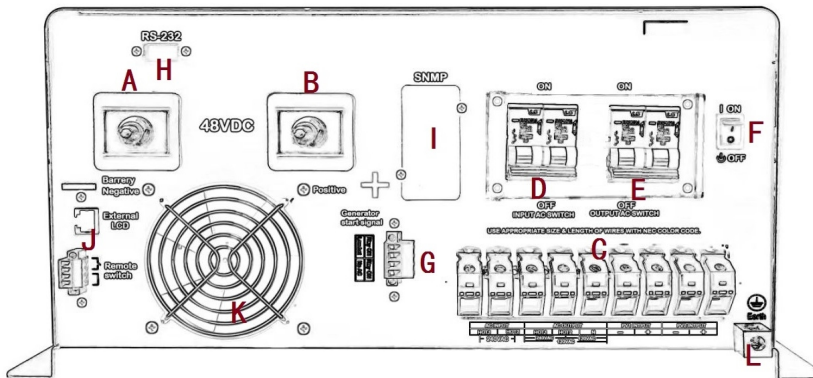

Figure 5. 8KW-12KW Front panel
Step 2: Following the wiring guide located in the AC input wiring compartment as figure 5, connect the GND (green/yellow), HOT1 (brown), and HOT2 (red) wires from the AC input (utility, generator, etc) to the terminal block.